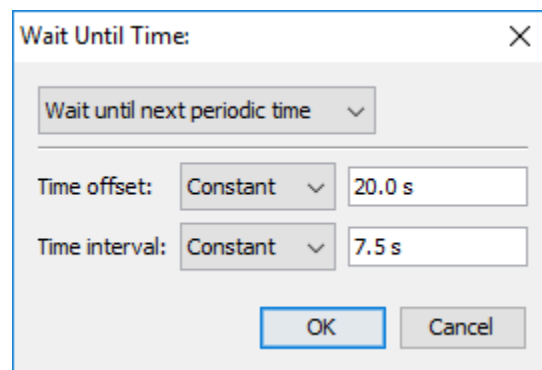

Figure 122. Wait Until Time dialog
2. Click the time to edit the value, which will show the **Wait Until Time** dialog as shown in Figure 122.